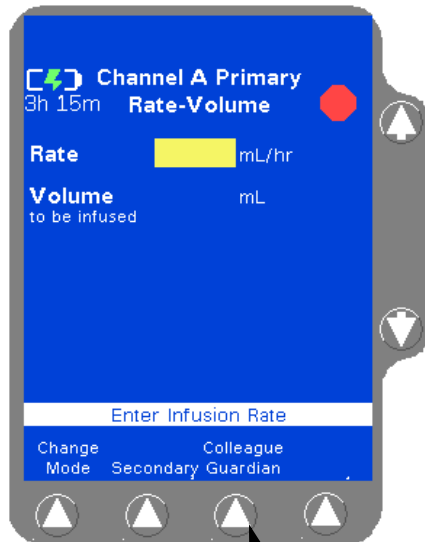

Figure 4-33 Colleague Guardian Soft Key
- From the Programming screen, press the **Colleague Guardian** soft key (Figure 4-33).